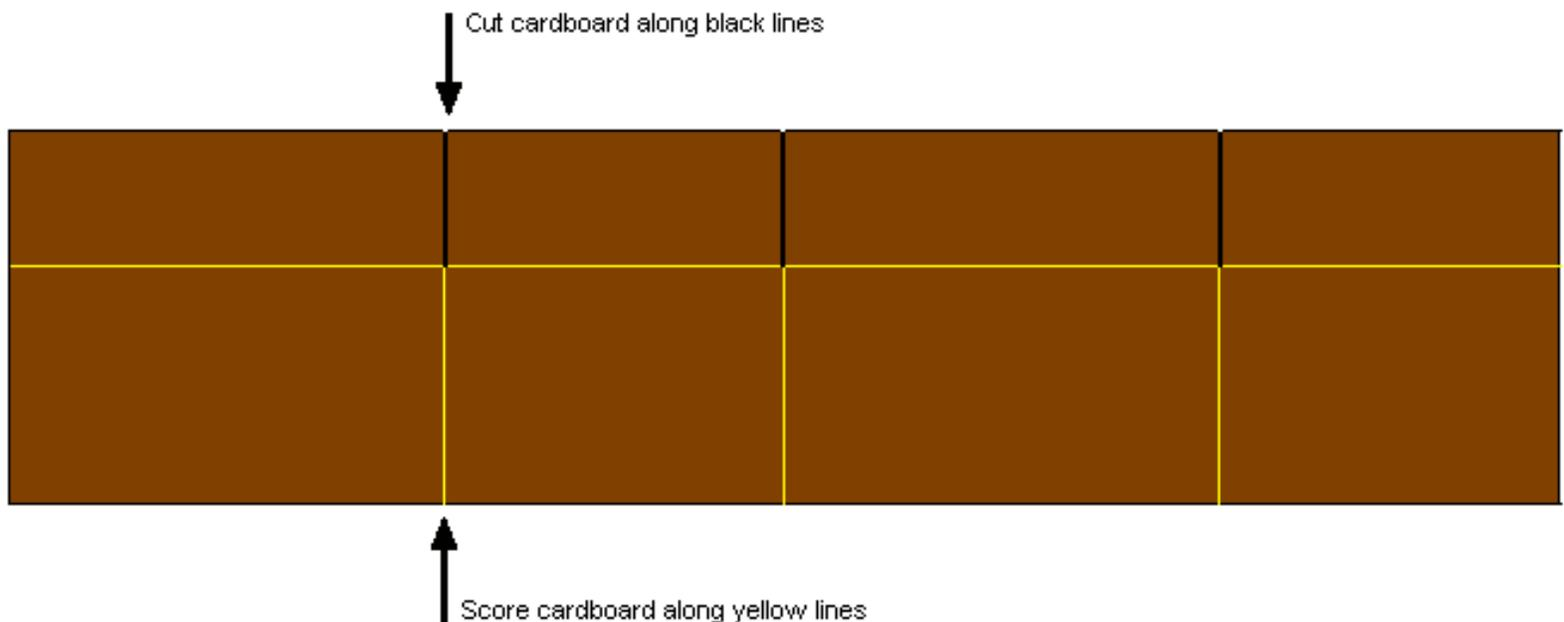

Figure 11. Cut and score the 5" strip of cardboard for the inner box lid.
3. Use the box knife to cut through the cardboard at black lines shown in Figure 11.
4. Score cardboard along the yellow lines indicated in Figure 11. Refer to the hints in the Skill Tip: Scoring and Folding Cardboard below to score the cardboard for neat folds.